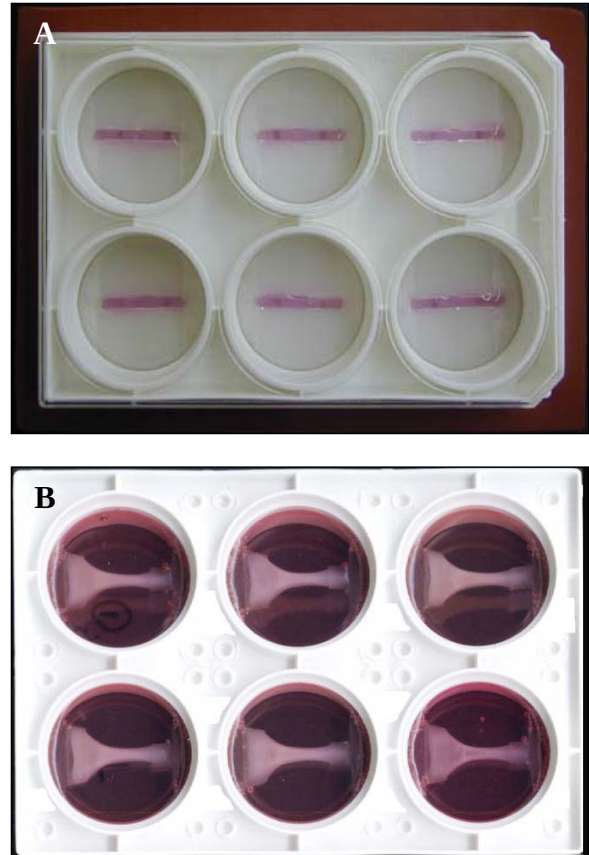

Figure 3. Tissue constructs in A) a linear Tissue Train® plate atop Trough Loaders™ and B) a Trapezoidal Tissue Train® culture plate.
- Place the baseplate with culture plates in a 37 °C incubator and allow the solution to gel. After the gel has set, release the vacuum and add 3 mL of serum-containing media to each well. The gels should appear as a band of gel attached at each anchor end in the Tissue Train® well (Fig. 3). Remove culture plates from the BioFlex® baseplate, if needed.